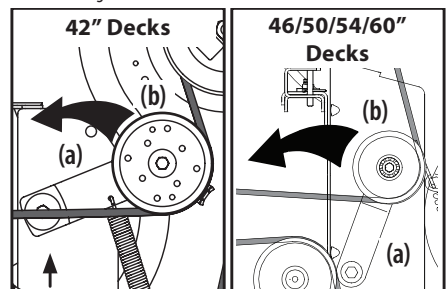

Figure 41
- a. Using the deck lift handle or the deck lift pedal and knob, raise the deck to the position that provides the most horizontal run of the belt between the deck idler pulleys and the PTO pulley on the bottom of the engine. See Figure 41.
- b. Working from the middle of the tractor, pivot the idler bracket (a) and movable idler pulley (b) rearward just far enough to lift the belt up and over the spindle pulley. See Figure 41.